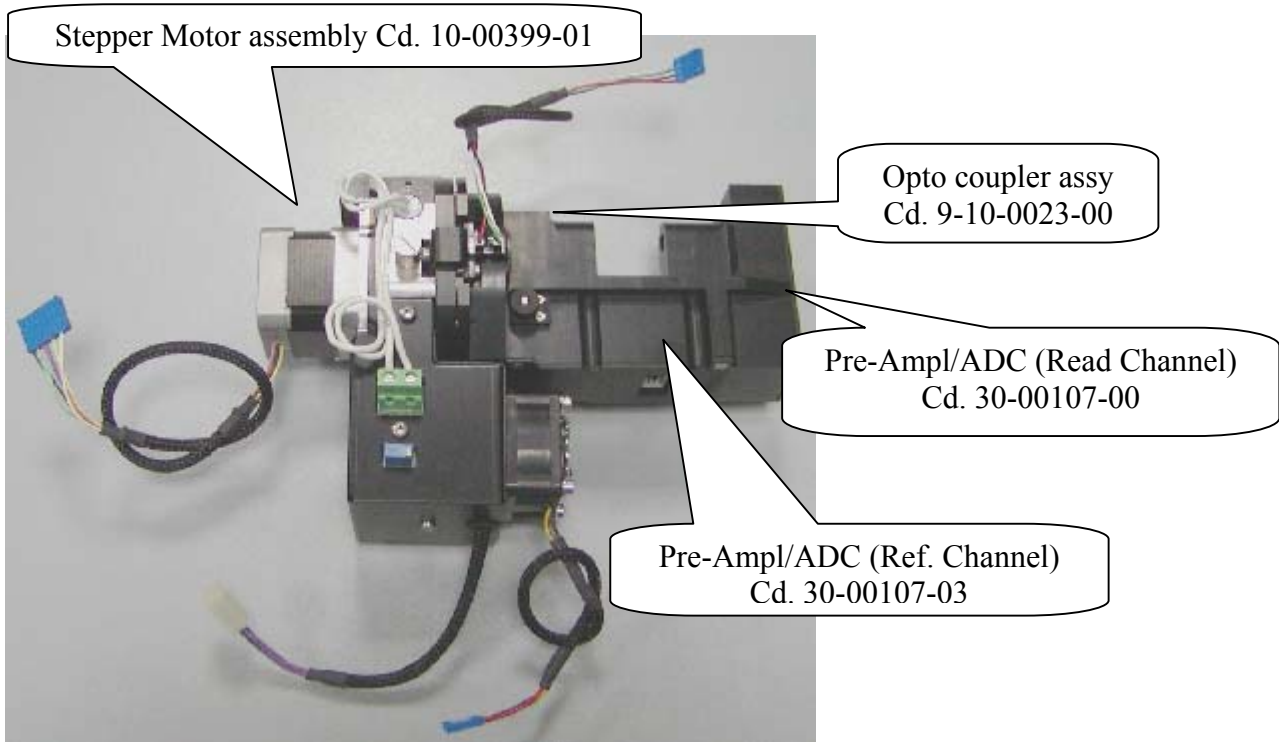

Fig. 45 Optic Assembly Cd. 10-01688-00
5. Unscrew the four Optic Assembly fastening screws, remove it from its housing and substitute it with the new one (Fig. 45).
5. Unscrew the four Optic Assembly fastening screws, remove it from its housing (Fig. 45).
5. Unscrew the four Optic Assembly fastening screws and remove it from its housing (Fig. 45).